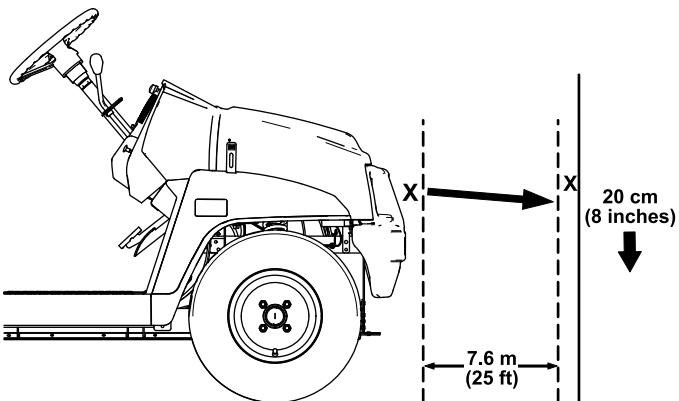

Figure 40
1. Park the machine on a level surface with the headlights approximately 7.6 m (25 ft) from a wall (Figure 40).
The brightest part of the headlight beam should be 20 cm (8 inches) below the mark placed on the wall (Figure 40).